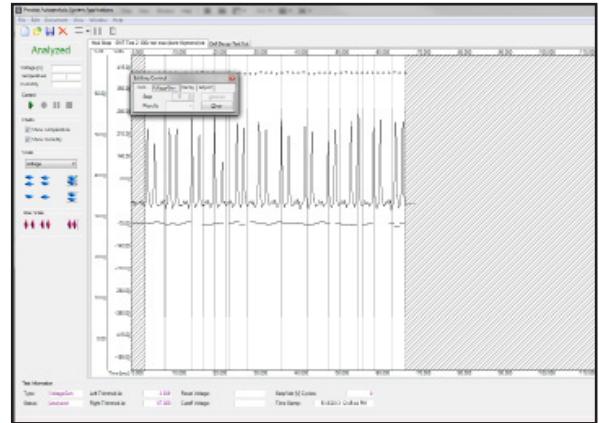

Figure 31: Representative number of Cycles entered in Voltage Generation
4. Click the **Voltage Gen** tab and enter the number of step cycles or measurement peaks between the trim points on the chart and press Analyze. If a clear number of peaks are entered and the program confirms through its algorithm, it will display a series of Min and Max peaks with vertical lines for each step cycle as shown in Figure 31.